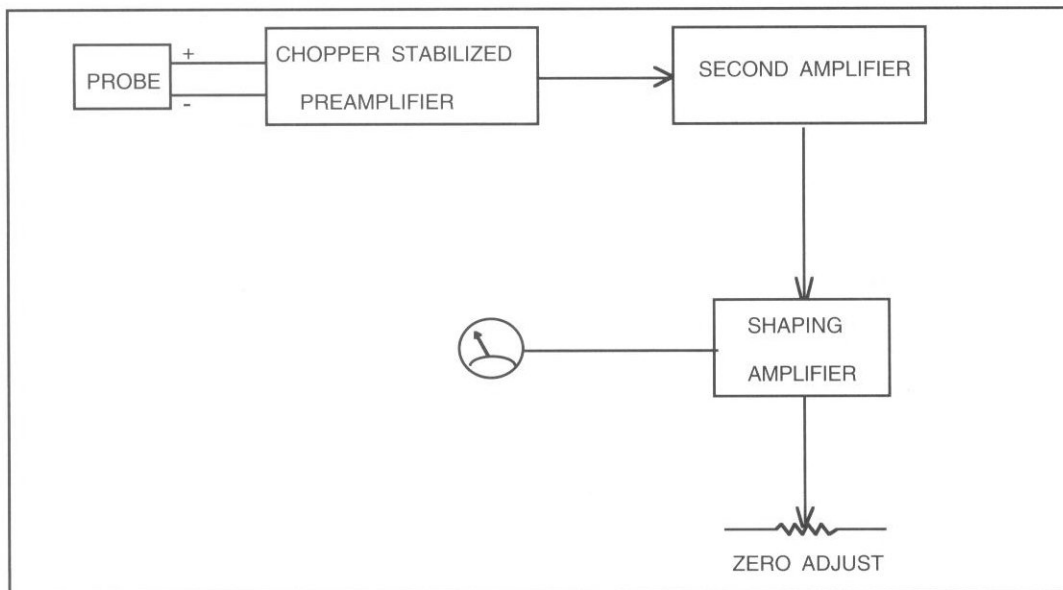

Figure 2. Revised block diagram incorporating new amplifier circuits.
**Figure 2** shows the revised block diagram of the new amplifier circuit. The previous chopper